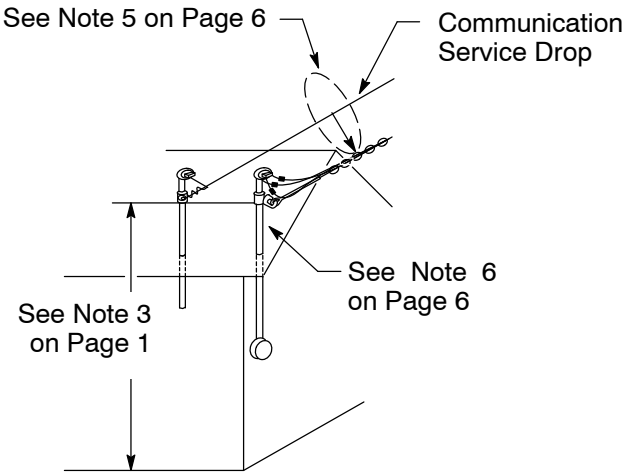

Figure 11
1. It is recommended that supply and communication services not be located in the same vertical plane. See Figure 11 on Page 7 for recommended arrangement.